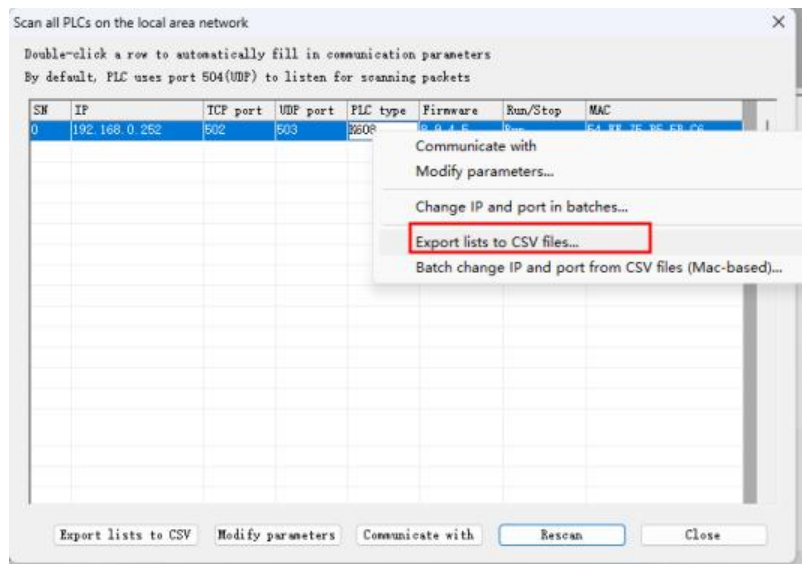

Figure 1
- ③ Click Start with this Port set all to different when Start with this IP set all to different, The devices in the network increment with this IP as the starting IP, and the port numbers of all devices become the same.
- ④ Click Start with this Port set all to different when Start with this IP set all to different, The devices in the network increment with this port as the starting port number, and the IP addresses of all devices become the same.
- ① Export the list of all PLC parameters in the network to a CSV file, as shown in Figure 1 and Figure 2.